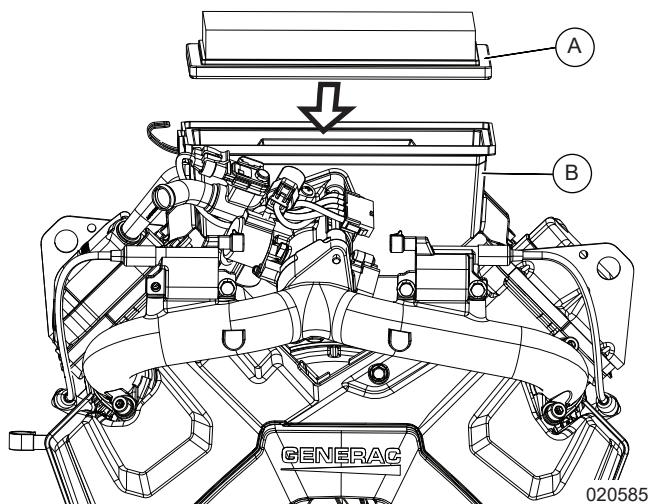

Figure 12-26. Install Air Filter
1. See Figure 12-26. Install air filter (A) inside air box base (B).